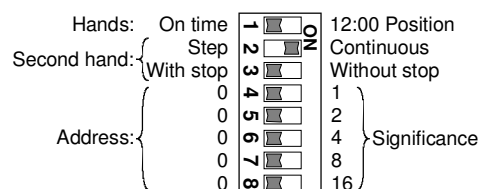

Fig. 5
- Set DIP switch 1 to **ON** position (12:00 Position, Fig. 5)
- After checking the 12 o'clock position, reset DIP-Switch 1 to OFF position (Fig. 5).